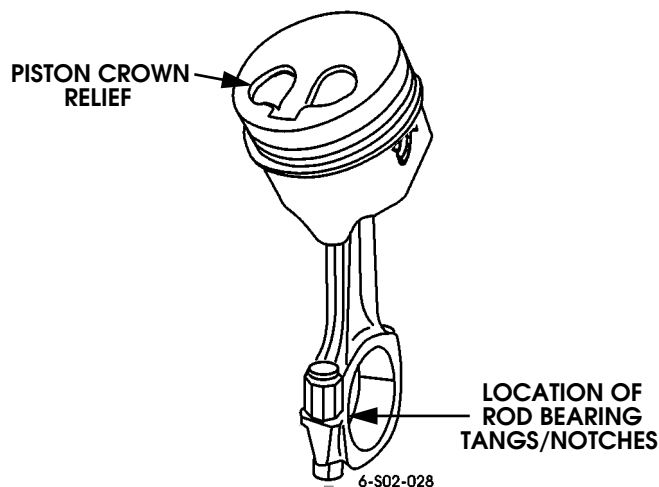
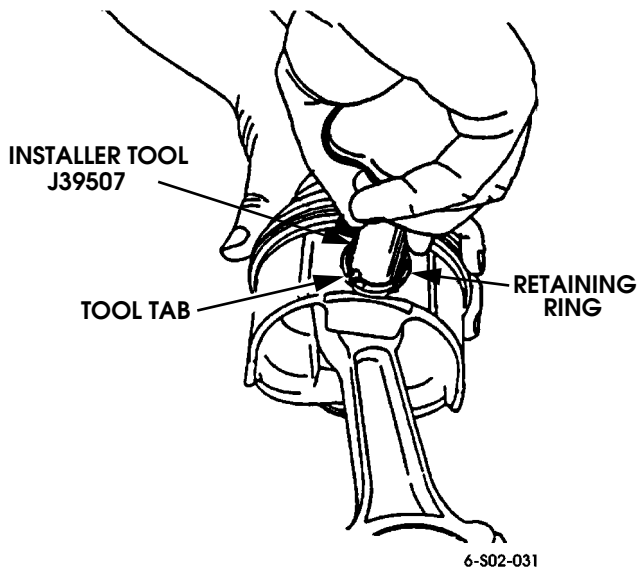

Figure 2-144: Piston and Connecting Rod Alignment
Figure 2-147: Seating Piston Pin Retainer Ring
4. Position piston on rod. Relief in piston crown and rod bearing tangs/notches must be aligned (Figure 2-144).
- e. Insert tool J39507 into piston pin (Figure 2-144). Place tool tab on retaining ring. Seat ring by pressing downward and rotating tool in arc. Tool tab will press ring into place as it is rotated (Figure 2-147).